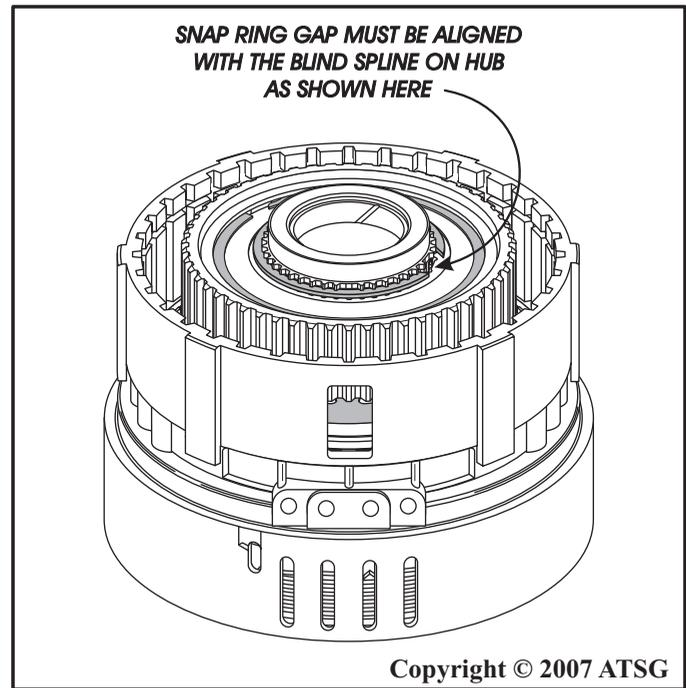

Figure 114
**Note:** Snap ring opening must be aligned with the blind spline on the inner race, as shown in Figure 114.